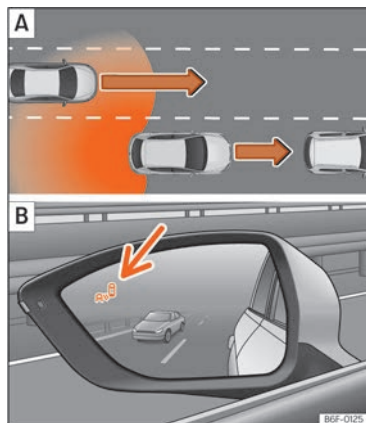
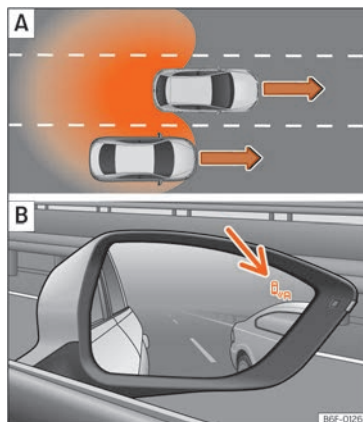

Fig. 116 Schematic diagram: **A** Overtaking with traffic behind the vehicle. **B** Side Assist indication on the left hand side.
Fig. 117 Schematic diagram: **A** Overtaking in the central lane and then joining the right lane. **B** Side Assist indication on the right hand side.
In the following situations, an indication will be displayed in the control lamp >>> Fig. 116 **B** (arrow) or >>> Fig. 117 **B** (arrow):
- When being overtaken by another vehicle >>> Fig. 116 **A**.
- When passing another vehicle >>> Fig. 117 **A** with a speed differential of approx. 10 km/h (6 mph). If the vehicle is passing at a considerably higher speed, no indication will be displayed.